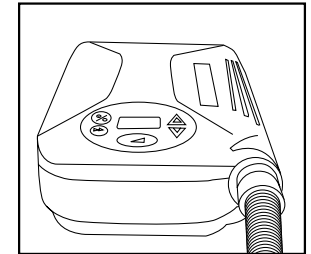

Figure 6
- Connect the 6-foot length of 22 mm diameter tubing to the outlet port on the front of the unit **Figure 6**. This is the port from which CPAP air supply is provided.